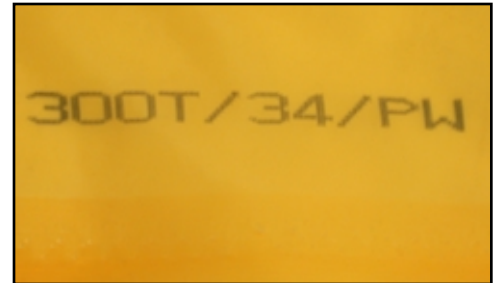

FIGURE 9
Use as fine a screen as you can. I recommend either 280 - 305. The thread diameter should be 34 - 35 microns, and in Plain Weave (PW). You may not know what this means, but it is important in making sure that you hold as many dots as possible. You can tell what mesh you are working with as the necessary information is stamped on the edge of the mesh. You will typically see 305.34 PW or 300T/34/PW to indicate the mesh count in threads per inch, thread diameter in microns, and the type of weave. *[FIGURE 9]*